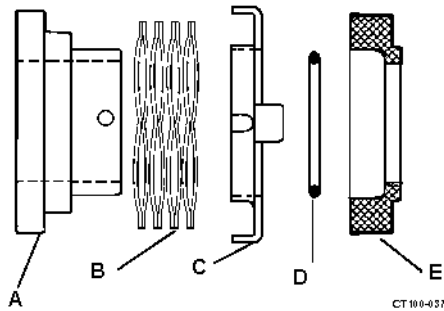

Figure 26 - Carbon Seal
3. See Figure 26. Assemble the spring (item B), seal cup (item C), o-ring (item D) and carbon seal (item E), and install them as a unit, taking care that the slot in the seal cup aligns with the pin on the shaft. Gentle pressure on the o-ring will overcome resistance on the shaft.